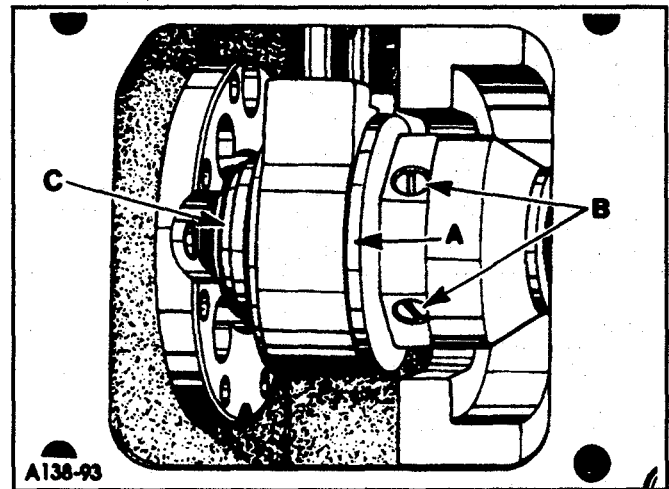

FIG. 18
Timing of spreader travel is determined by the position of spreader drive eccentric (A, Fig. 18) on the crankshaft. While rotating handwheel in operating direction, the spreader should begin to move to the left as needle bar rises  $1/8"$  (3.8mm) from bottom of stroke. Adjustment can be made by loosening screws (B), advance or retard eccentric as required. Thrust eccentric against spacing washer (C) when tightening screws (B).